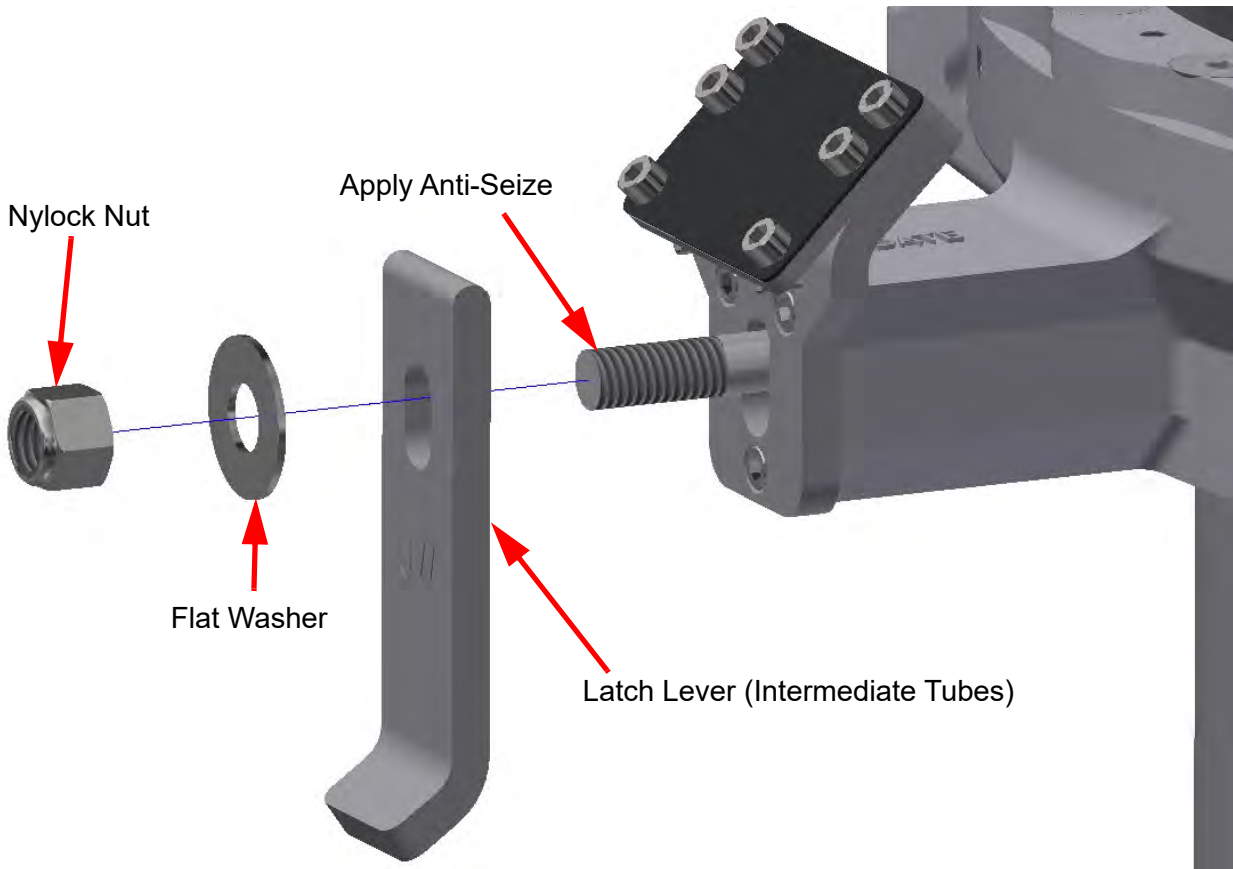

Figure 8-25 Assemble Components
10. Apply anti-seize to threads of both pins on base tube collar as shown in Figure 8-25.